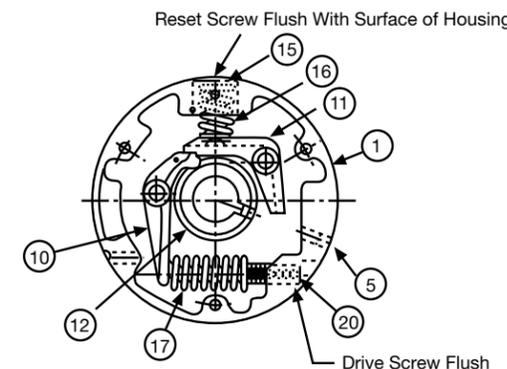
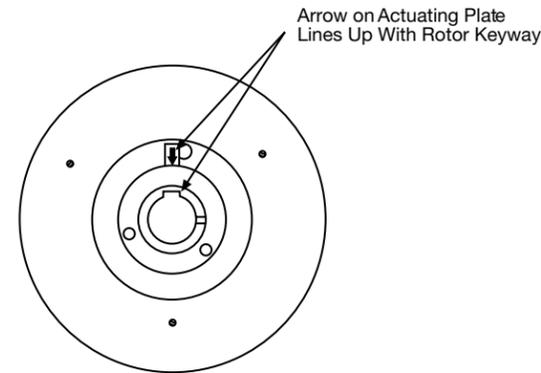

Figure 15 - Clutch Internal Components
Figure 17 - Keyway Location
- Remove the return pin snap rings (33) from the face of the cover (8), then remove the return pins (31) and the return pin springs (34).
- Remove the reset spring screw (15) and take out the reset spring (18), and the ball thrust (19) through the hole stamped 9.
- This step is for manual reset only. Go to next step for automatic reset. Install the drive pawl (10) into the appropriate hole in the housing (1), and the reset pawl (11) into its appropriate hole in the housing. Check the fit of the reset pawl into the notch of the drive pawl with the clutch disengaged. The reset pawl should fit approximately one-third of the way into the notch. Grinding the nose of the reset pawl may be necessary to obtain the proper fit.
- The drive pawl (10) and the drive spring (17) will have to be installed simultaneously. If a drastic change in torque is desired, use this step to change the drive spring. Place one end of the drive spring over the drive spring thrust washer. Insert the knob of the drive pawl into the other end of the drive spring. Insert the trunnion of the drive pawl into the hardened bushing in the housing, while the nose of the drive pawl fits into the notch of the rotor (12). Install the reset pawl (11) into its appropriate hole in the housing. (See Figure 15)
- Insert the reset spring disc (16) inside the reset spring screw (15). Apply grease to the surface of the disc.
- If a drastic change in torque is desired, use this step to change the reset spring. Place the reset spring (18) on the surface of the reset spring disc. Apply grease to the end of the ball thrust (19) and insert ball thrust into the reset spring.
- Apply grease to the threads of the reset spring screw (15) and insert the assembly of the reset spring screw, reset spring disc (16), reset spring (18), and ball thrust (19) through the hole stamped 9 on the housing. Tighten the reset spring screw until it is flush with the surface of the housing. (See Figure 15)
- Install a return pin spring (34) over each return pin (31). Locate the return pin holes in the cover by placing the cover over the housing assembly.
- Install a snap ring (33) into the groove on the end of each return pin (31).
- Install the cover screws (23) and tighten to the suggested torques in Table 12.
- Turn the drive spring screw (20) clockwise until it is flush with the surface of the housing. (See Figure 15)
- The clutch is supplied with a torque selector dial. The torque selector dial is the two or three mill marks located at the hole stamped 9 on the housing. If a drive spring (17), reset spring (18), and/or a reset spring screw (15) were replaced, chances are that the stamped torque values on the dial are no longer valid. It may be necessary to grind the old numbers off and to stamp new numbers.
- Tighten the reset spring screw (15) until it reaches the limit stop pin (4). this will be the maximum torque position. If the maximum torque is not desired, tighten the reset spring screw to one of the locations on the torque selector dial.
- Disengage the clutch with a torque wrench. Fine tune the torque by turning the drive spring screw (20) until the desired release torque is obtained.
- Once the desired release torque is obtained, tighten the locking screws (24) located over the drive spring and reset spring screws to ensure that they will not move.
- Apply a thin coat of grease to the "O"-ring (39) and place it into groove on the outer edge of the cover. Be sure not to twist the "O"-ring.
- Insert the Woodruff key (37) into the keyslot of the rotor. The Woodruff key may require a gentle tap with a hammer.
- Press the cam plate (36) onto the rotor.
- Place the actuating plate (26) over the rotor and cover. There is an arrow on the actuating plate which should point to the keyway in the rotor when properly installed. The return pins should fit through the proper holes in the actuating plate. (See Figure 17)
- Install the return pin nuts (32) onto the end of the return pins. This is accomplished by holding the return pin steady with a screwdriver while turning the return pin nut clockwise with a box or open end wrench.
- If the clutch is a Model FJ or FG, install the locking collar (13) onto the sawcut section of the rotor. Do not tighten the collar until the clutch is installed on the shaft. Refer to Section III for installation of the basic clutch.
- Push liftout buttons (27) through appropriate holes in the actuating plate (26). Secure each liftout button with a snap ring (28).
- Push holdout buttons (29) through appropriate holes in the actuating plate (26). Secure each holdout button with a snap ring (30).